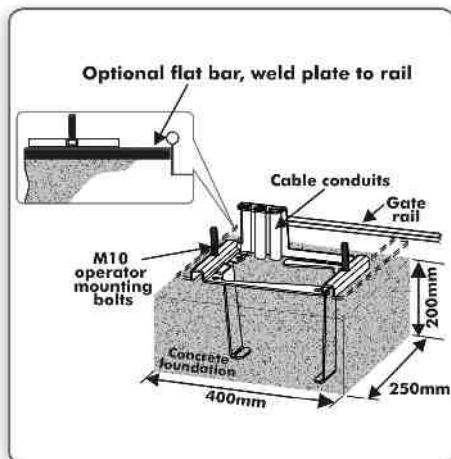
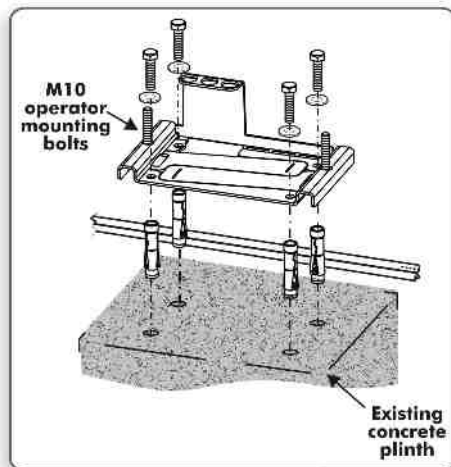

FIGURE 11
FIGURE 12
1. The foundation plate can either be set into a concrete foundation, as in Figure 11 or bolted down onto an existing concrete plinth, as in Figure 12.
When using a concrete foundation it is recommended that the foundation plate is welded to the rail/track of the gate using a short length of flat bar as shown in Figure 11. This makes it possible to complete the whole mechanical and electrical installation without having to wait for the concrete to set. After completing the installation the concrete can be poured and the operator left in manual mode until the concrete has set.